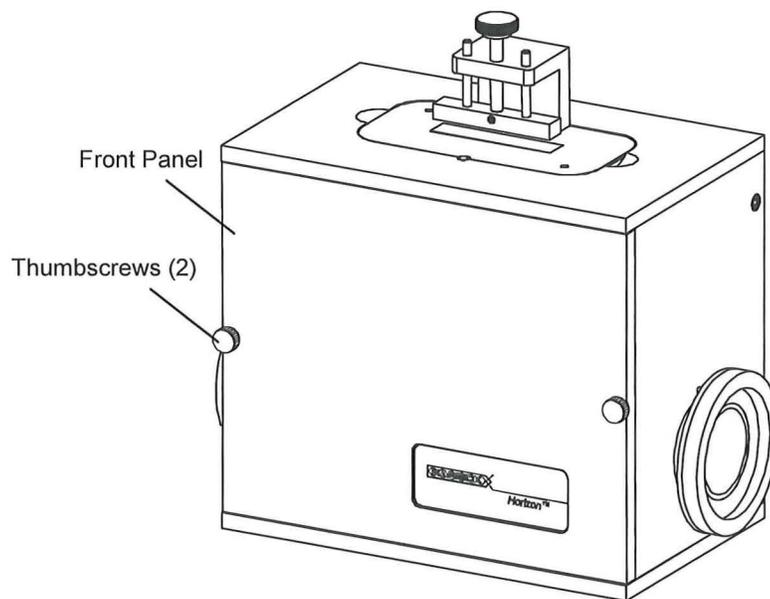

Figure 3 • Opening the Front Cover of the Horizon™.
- Loosen the two thumbscrews on the front panel and lift off the front panel (see Figure 3).